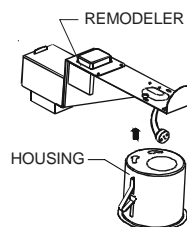

FIG.5
1. Remove the movable remodeler from the ceiling. (Fig.5)
2. Screw the housing onto the remodeler in which ever of the two slots that provides the correct spring position. Turn and tighten the screw. (Fig.5)